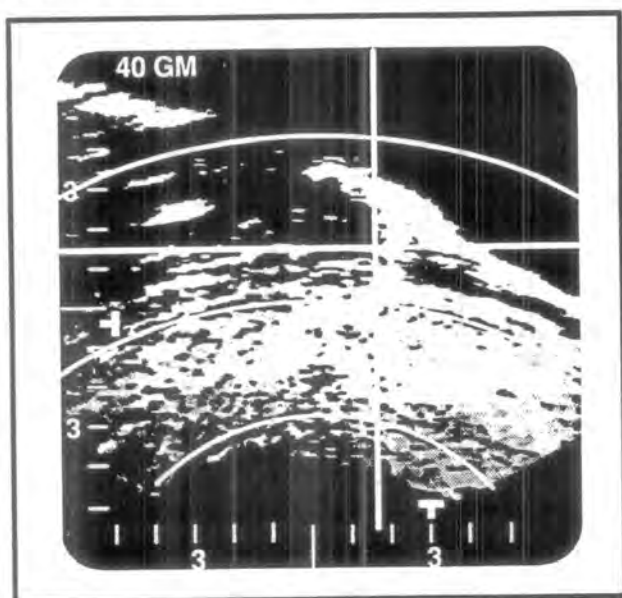

Figure 7-26 Typical Ground Map (GM) Display
7.224 Ground Map (GM) provides an all-weather, PPI presentation utilising noncoherent, frequency agile, signal processing with a low PRF. A typical GM display is shown in Figure 7-26. A pencil beam is employed in azimuth and elevation, and the elevation scan is automatically limited to one bar. Manual IF gain control is provided. The antenna scan is roll, pitch and drift stabilized in that aircraft ground track represents 0 degree azimuth.